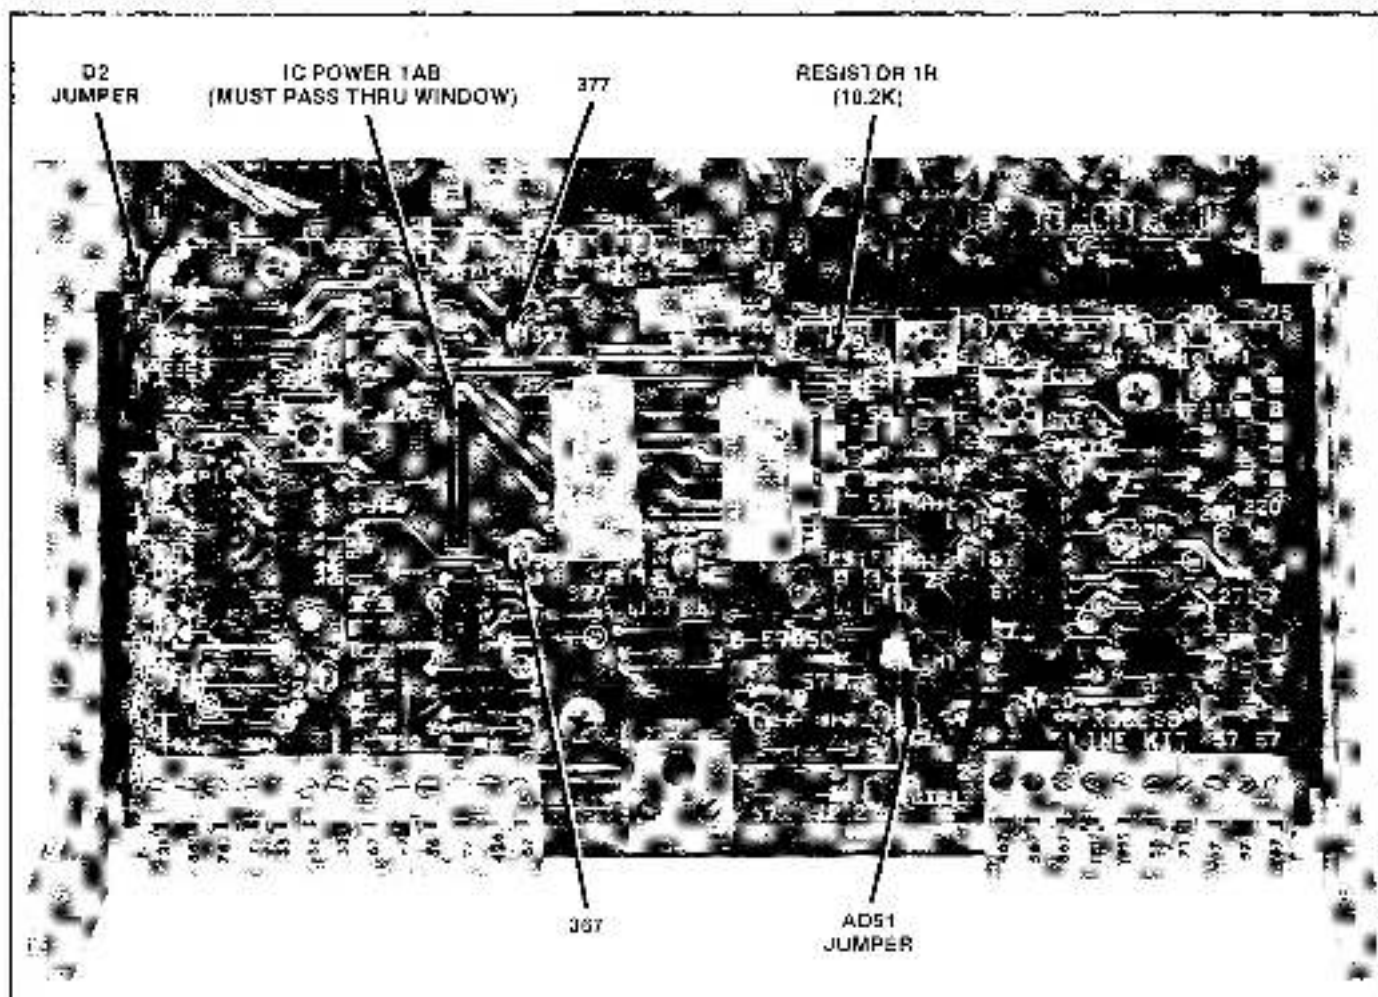

Figure 5.2. Process Line Kit installed on Regulator Module.
**Process Line Kit**— The Process Line Kit (Figure 5.2) allows the FlexPak Plus (S2C) and the Regenerative FlexPak Plus (S2R) to be used in most process line applications without the need for additional hardware in separate racks. The Process Line Kit includes circuitry for remote operator interfacing, tachometer feedback and standby operation. Applications include web process lines where a drive would have multiple sources of feedback signals controlling the process.